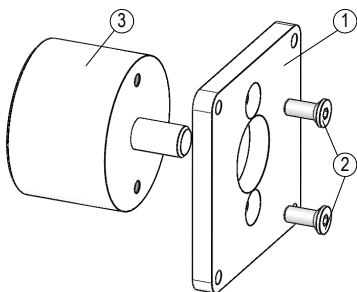
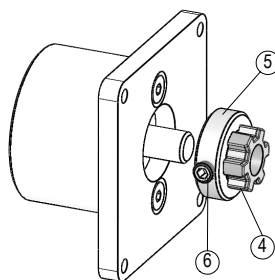
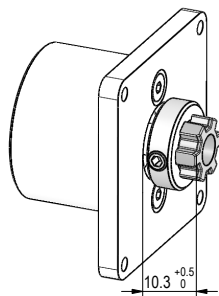
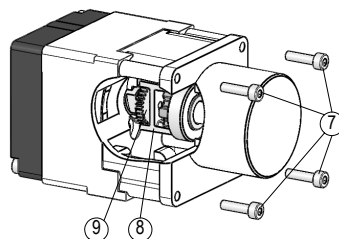

Fig. 7: Mounting flange/encoder
Fig. 8: Mounting coupling
Fig. 9: Distance flange/coupling
Fig. 10: Mounting of encoder/flange/coupling with the SG21
Mounting (Fig. 7, Fig. 8, Fig. 9, Fig. 10):
1. Mount the flange ZB4002 ① (see chapter 7.3) with the counter sunk screws ② to the encoder ③.
2. Slide coupling part ④ and ring ⑤ over the encoder shaft and fix it with the grub screw ⑥.
3. Pay attention to the distance flange/coupling (see Fig. 9)!
4. Check the correct position of rubber coupling ⑧ on gear ⑨.
5. Join parts ① ... ⑥ into the rubber coupling ⑧ and mount to the wire actuated encoder using cylinder screws ⑦.